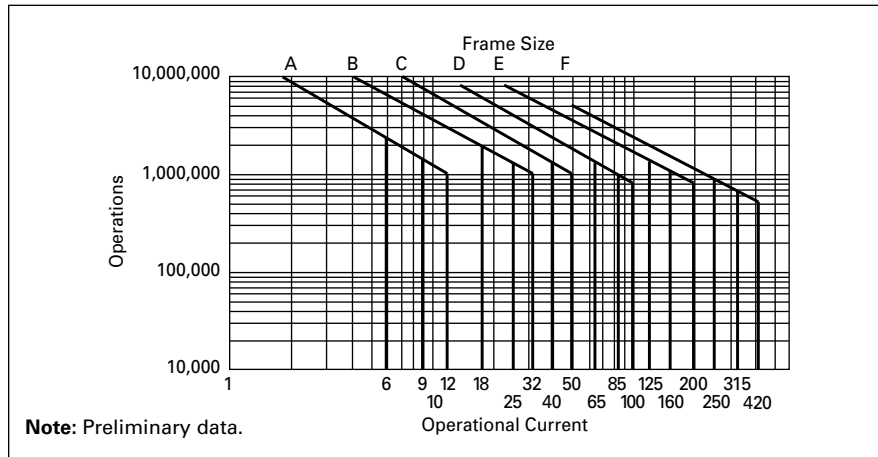
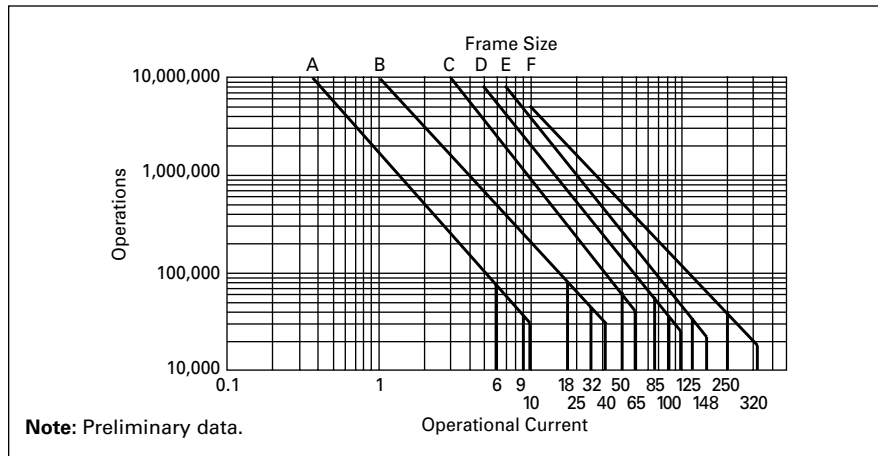

Figure B-139. Electrical Life — AC-3 Utilization Category
Figure B-140. Electrical Life — AC-4 Utilization Category
- Decide what utilization category the application is and choose the appropriate curve from **Figure B-139** or **Figure B-140**.